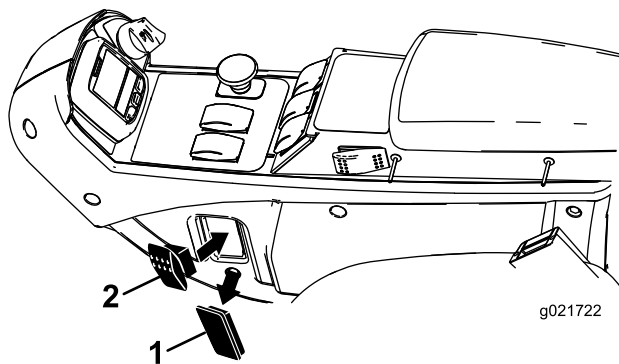

Figure 13
3. From inside the control arm switch panel, press the plug out of the hole in the side of the control panel (Figure 13).
4. Press the switch into the control panel mounting hole (Figure 13).